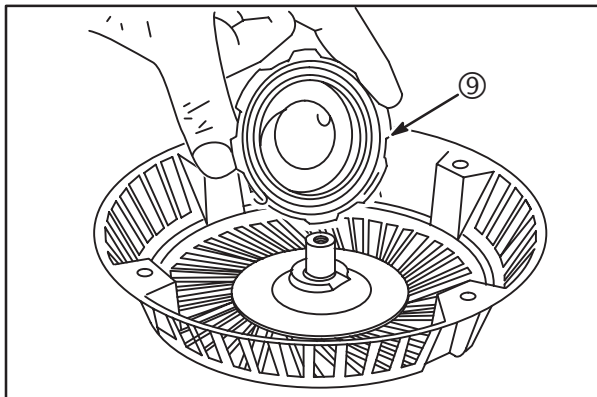

Fig. 66
6. Remove spring and cup assembly (9) from starter housing, Fig. 66.